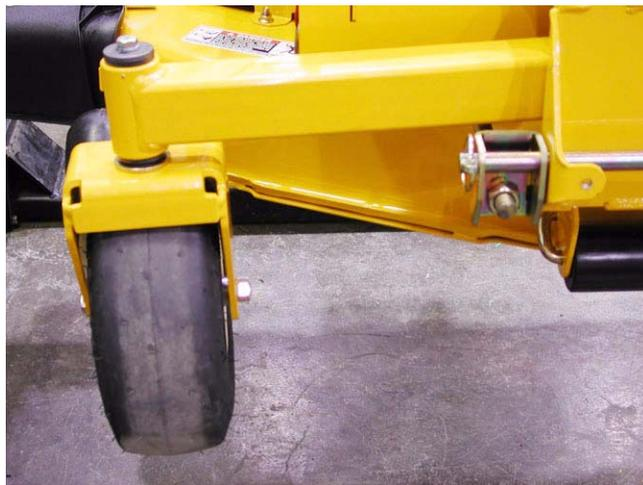

Figure 13.6
- 13.6. Remove at least one caster wheel assembly using a 9/16" wrench. See Figure 13.6.